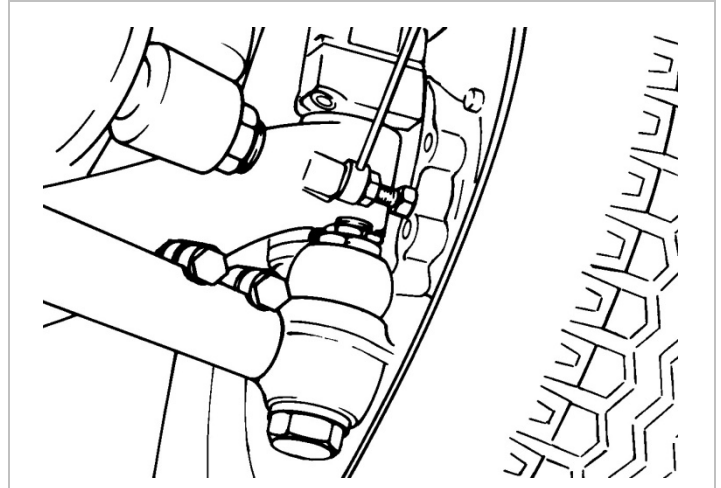

Fig. 28: Insert thrust pads between lock stops
1. Between the lock stops, insert tool [3] or approx. 15 mm thick thrust pads (Fig. 28) ensuring that the steering motion is stopped  $\frac{1}{2}$  to  $\frac{3}{4}$  steering wheel turn before reaching the axle stop/lock stop.